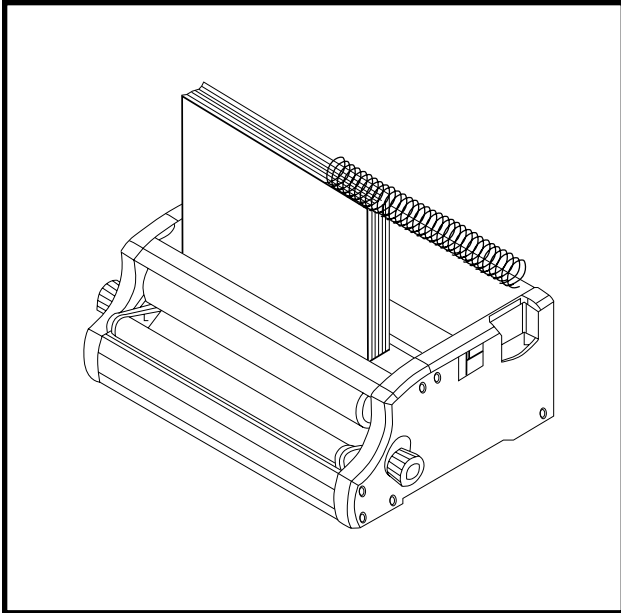

Figure 2
- Position started coil in book in between the two rollers and hold in place while the rollers spin the coil through the book (See Figure 2). Once the coil begins to spin into the hole remove pressure from the leading 10 coils. These coils will find their way into the holes more easily if they are pushed from behind. (see diagram)